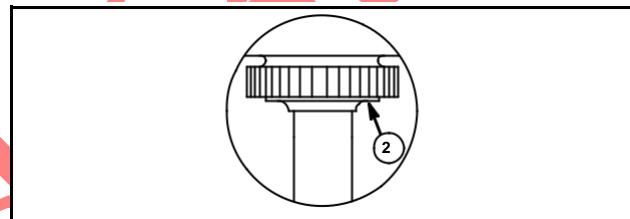

Fig. 25
If end play is more than specification using one .005" (.13 mm) thick gasket, a thrust washer (2) can be used on the PTO end of the crankshaft, Fig. 25. After installing a thrust washer measure the end play, and adjust as required.